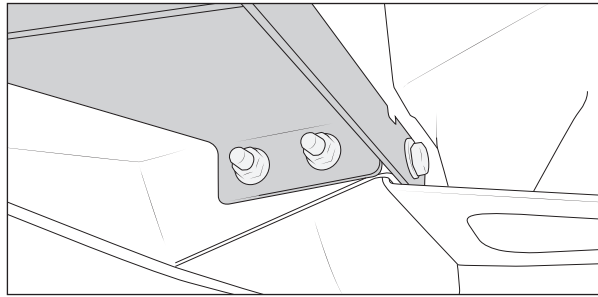

Figure 33
8. Lift winch plate into place on bumper. $\frac{1}{2}$ " bolts in fairlead bracket will pass through holes in fairlead plate on bumper. Tabs on winch plate gussets will lock into square cutouts in fairlead plate on bumper. Reinstall bolts from previous step to attach winch plate to bumper brackets. Install M12 hardware to sides of winch plate to attach it to bumper brackets (2 per side). Torque all M12 hardware to 70 ft-lb. (fig. 33).